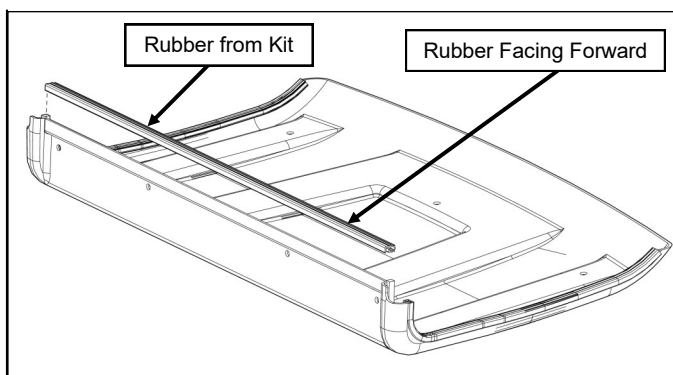

Fig. 1.4 (Install rubber on roof, if roof is being installed)
- 1.4 Per figure 1.4, if the Curtis Roof is being installed on this vehicle, a piece of 3/4" side bulb rubber with 2 wipers will need to be installed on the rear flange of the roof (rubber should be facing forward). If not, this kit installation is now complete.